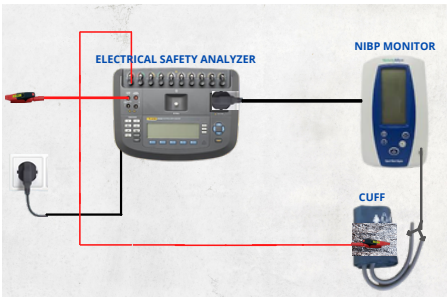

Figure 1: Connection Between Medical Equipment and Analyzer
1. Connect the DUT to ESA 620 as indicated in the Figure 1